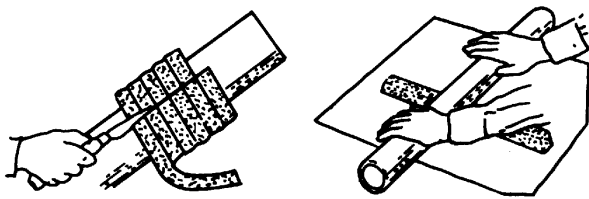

Figure F-7.
Step 1: Determine how much bulk packing will be required to fill the seal cavity and wrap it around a rod the same diameter as the shaft. With the packing wrapped around the rod, cut through each turn as shown in Figure F-7.